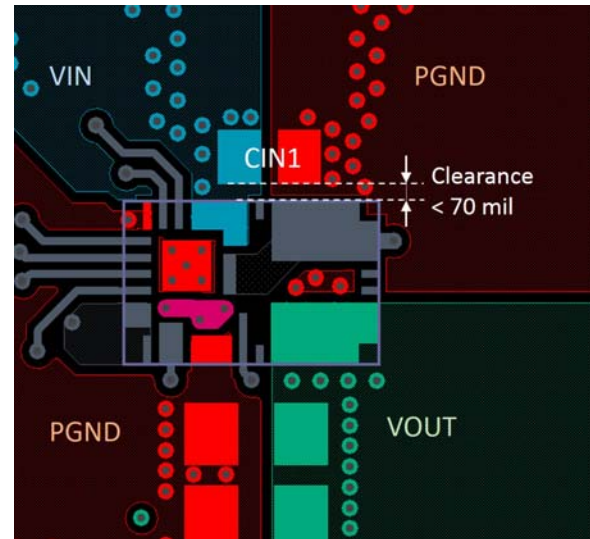
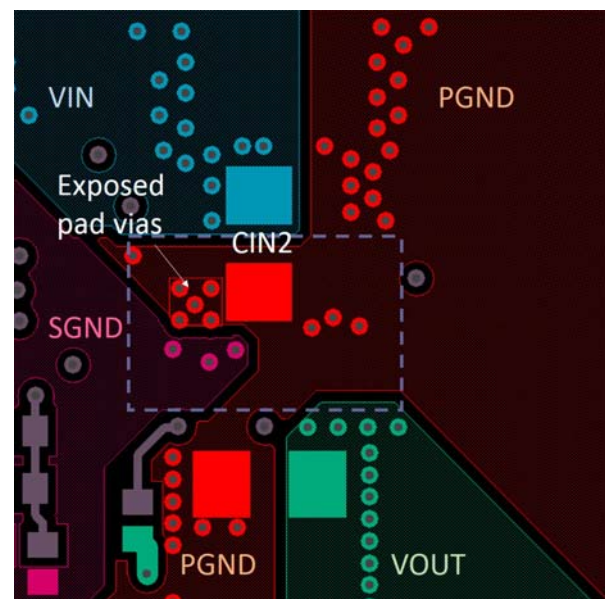

FIGURE 39. LAYOUT EXAMPLE - TOP LAYER
FIGURE 40. LAYOUT EXAMPLE - BOTTOM LAYER
A few layout considerations need to be taken into account in order to achieve proper operation of ISL8205M. An optimized layout design also allows the module to have lower power loss and good thermal performance. An illustrative layout example is shown in Figures 39 and 40. Key points are listed in the following:
- Place the input ceramic capacitors as close as possible to the module input. These ceramic capacitors are used to minimize the high frequency noise by reducing parasitic inductance of the switching loop. Optimized placement of these capacitors will not only lead to less switch node ringing, but also minimize the noise seen by the module to insure proper operation. It is recommended to use X5R or X7R ceramic capacitors with a minimum total capacitance of $44\mu\text{F}$ at module input. It is a **MUST** that one of the input capacitors (C_{IN1}), with no less than $3.3\mu\text{F}$ capacitance, should be placed on the same layer (assuming top layer) as the module and within less than 70 mil clearance to module input (refer to Figure 39). For capacitors on the bottom layer, it is recommended to have one (C_{IN2}) placed from VIN to PGND copper close to exposed pad (Pad 20) vias (as shown in the layout example in Figure 40).
- Use a separate SGND ground copper area for components that are connected to signal ground. Connect SGND copper to module Pad 22 through multiple vias (refer to Figure 40). Because Pad 22 is connected to module internal PGND at single location, the SGND copper area and PGND plane on the PCB can be left separated.